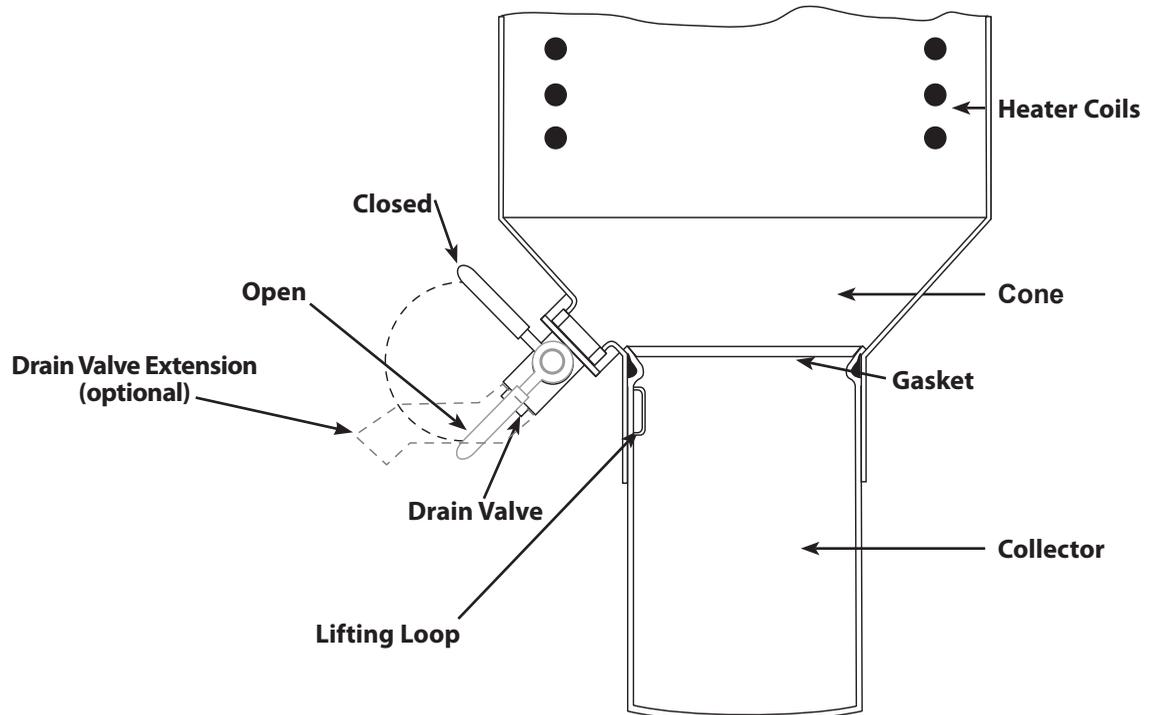

FIGURE 3 - Some features have been omitted to show greater detail.
4. **Check Collector and Drain Valve** - Make sure collector with gasket is seated and drain valve is closed (handle back - see Figure 3). Always place lifting loop in front. This will allow the collector to be removed with ease.